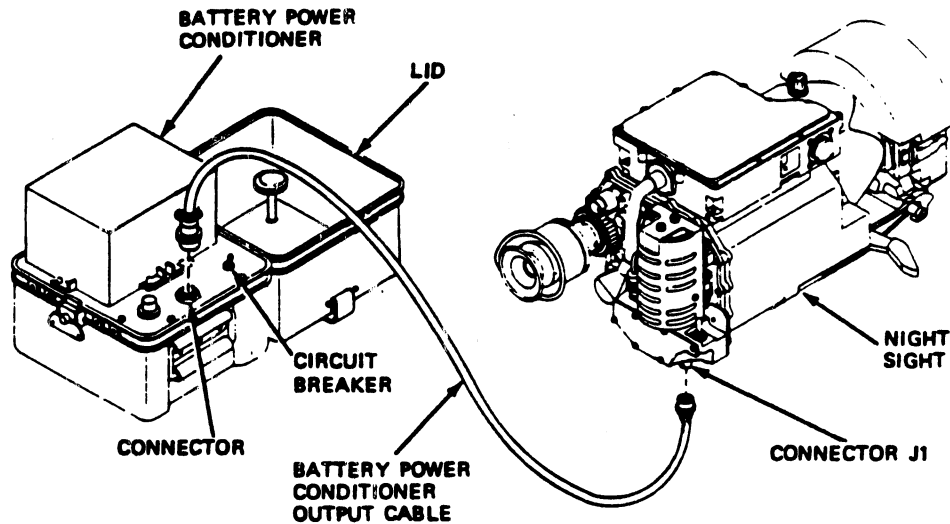

Fig 2-17. Installing night sight--continued.
Step 8. Open the lid of the night sight battery power conditioner and connect the output cable connector 8W1P2 (8J1) to the connector on the battery power conditioner. Also connect the battery power conditioner output cable connector 8W1P1 (1J3) to the night sight input power connector J1. Set the circuit breaker to ON (fig 2-17).